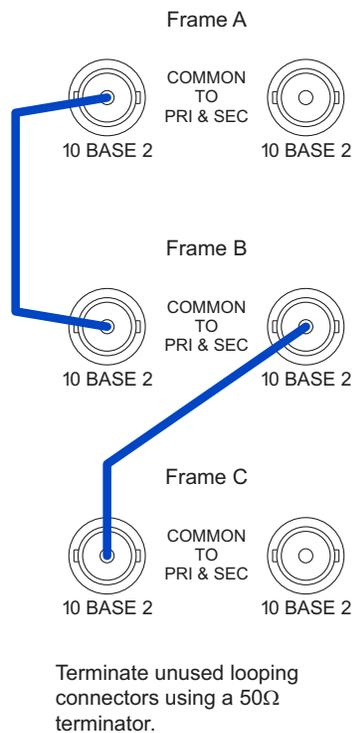

Figure 3-23. Control System Expansion Connections Between Routers
- 3 Connect the other end of the cable to the *left* '10 BASE 2' connection on **router 2**, using a 50Ω BNC connector, as shown in Figure 3-23.
- 4 On **router 2**, connect to the *right* '10 BASE 2' connection using a 50Ω BNC connector and coaxial cable, as shown in Figure 3-23.
- 5 Connect the other end of the cable to the *left* '10 BASE 2' connection on **router 3**, using a 50 Ω BNC connector, as shown in Figure 3-23.
- 6 On **router 3**, connect to the *right* '10 BASE 2' connections using a 50 Ω BNC connector and coaxial cable, as shown in Figure 3-23.
- 7 Connect the other end of the cable to the *left* '10 BASE 2' connection on **router 4**, using a 50 Ω BNC connector, as shown in Figure 3-23.